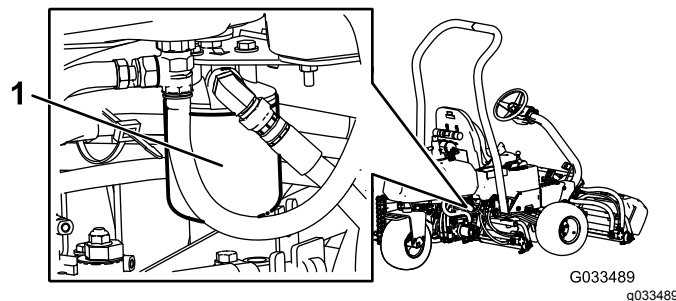

Figure 52
3. Repeat step 1 and 2 for the right hydraulic filter (Figure 52).